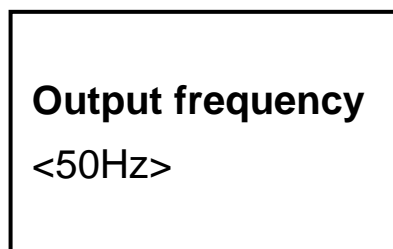

Fig. 4-12
1). Press  button or  button to choose “**Output frequency**” (Fig. 4-12). Press button  and the cursor will flash on “<**50Hz**>”.